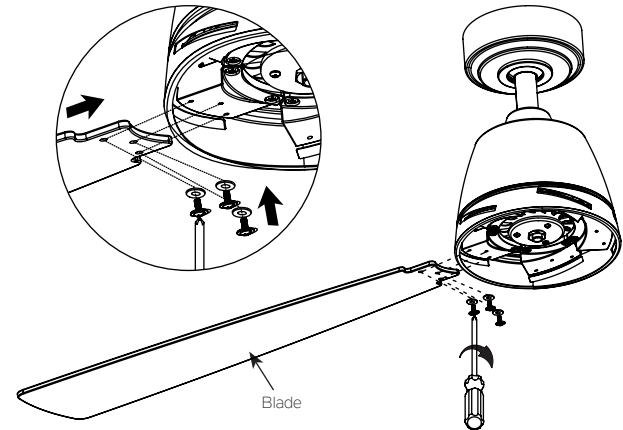

Fig. 18
Step 1. Insert the blade through the slot on the motor housing, as shown, secure with the screws and washers provided. Repeat process with the other blades. (Fig. 18)